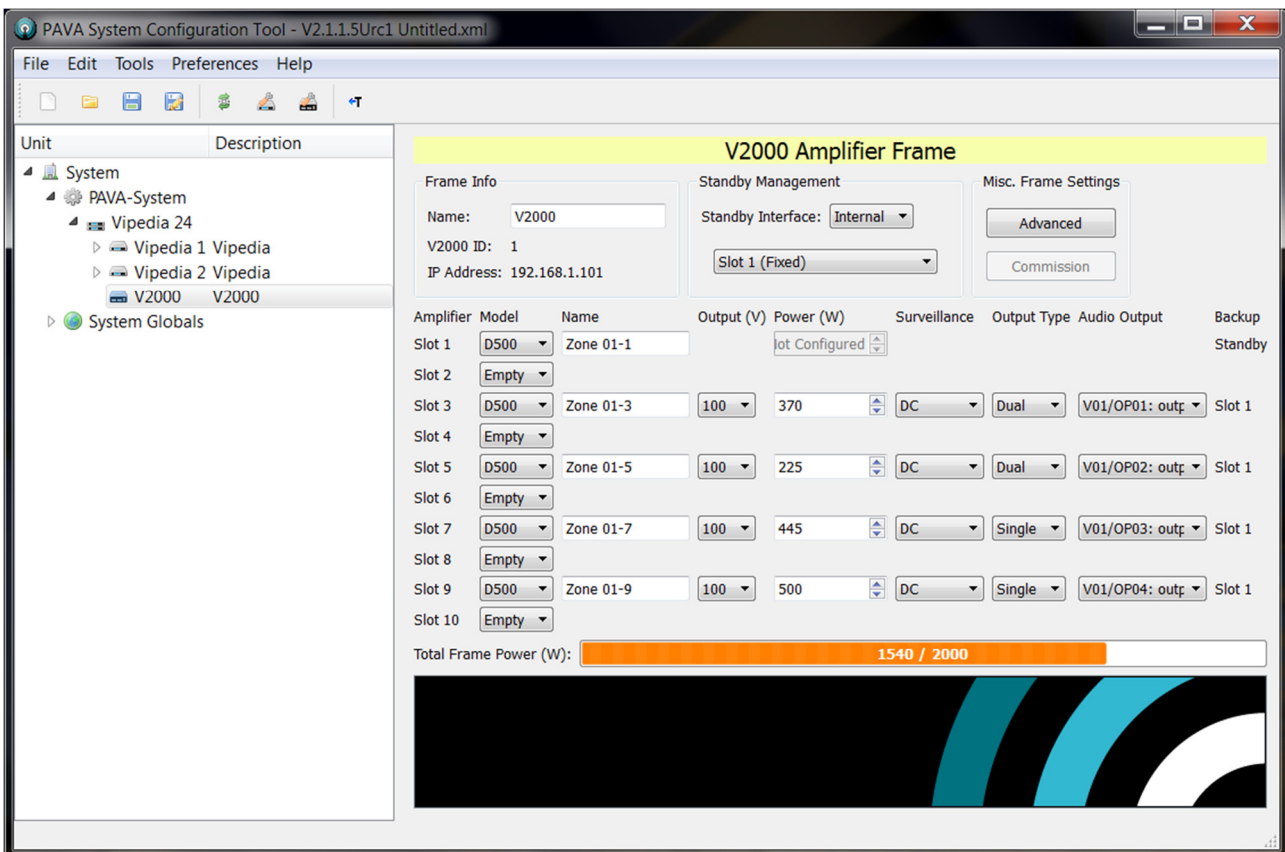

Figure 3 System Configuration Tool – Example, with V2000 configuration
- It is configured using the **System Configuration Tool**. **Figure 3** shows the tool open on a V2000 configuration page as example.